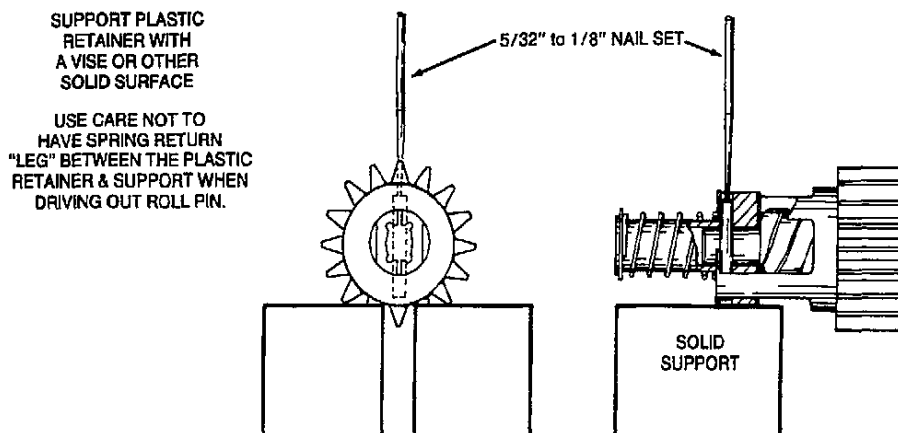

FIGURE 2. DRIVING ROLL PIN OUT
5. Use a 1/8 to 5/32 inch nail set to remove roll pin. Remove return spring, gear and clutch assembly as required. When reassembling always use a new roll pin. See Figure 2.